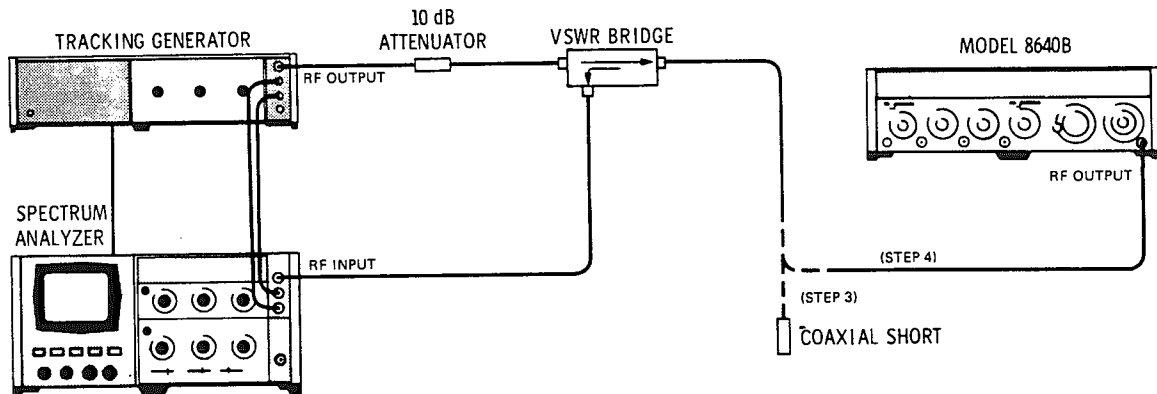

Figure 4-14. Output Impedance Test Setup (Out of Band)
1. Connect equipment as shown in Figure 4-14 after setting Signal Generator's controls as follows: